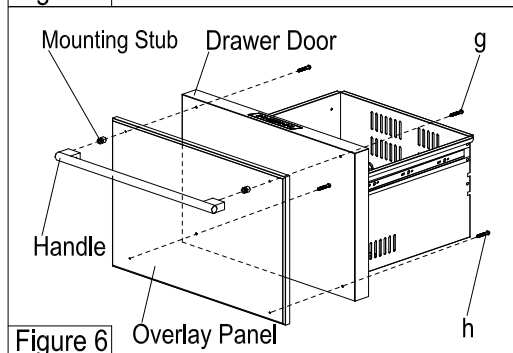

Figure 6
- Replace the screws from Step 6 with #10-32 UNF x 2.5 screws (g). (see **Figure 6**)
- Drill 2 #10x2 Phillips self-tapping screws (h) through the existing holes in the door groove at the bottom to secure the overlay panel. (see **Figure 6**)
- Drill 4 #10x2 Phillips self-tapping screws (h) through the 4 existing holes in the door groove to secure the overlay panel. (see **Figure 6**)